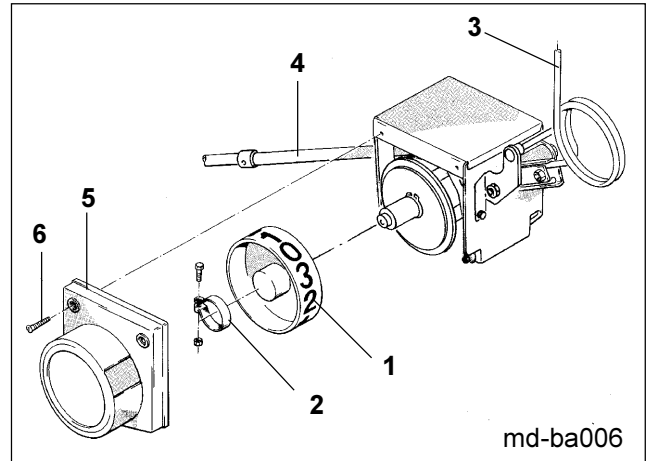

Fig. 18.43
- Provide the counter wheel (Fig. 18.43/1), as described in para. 18.9.2 with a new number tape and first affix loosely with the aid of a clamp (Fig. 18.43/2) on the ratchet wheel.
- Actuate lever on the control spring (Fig. 18.43/3) until the clamping tube (Fig. 18.43/4) is pulled and held in position. Hold protective cover (Fig. 18.43/5) to the switch box and turn the counter wheel (Fig. 18.43/1) until the figure "0" can be seen in the window of the protective cover.
- Clamp the counter wheel (Fig. 18.43/1) with the clamp (Fig. 18.43/2) and fix the protective cover (Fig. 18.43/5) with two self tapping screws (Fig. 18.43/6).